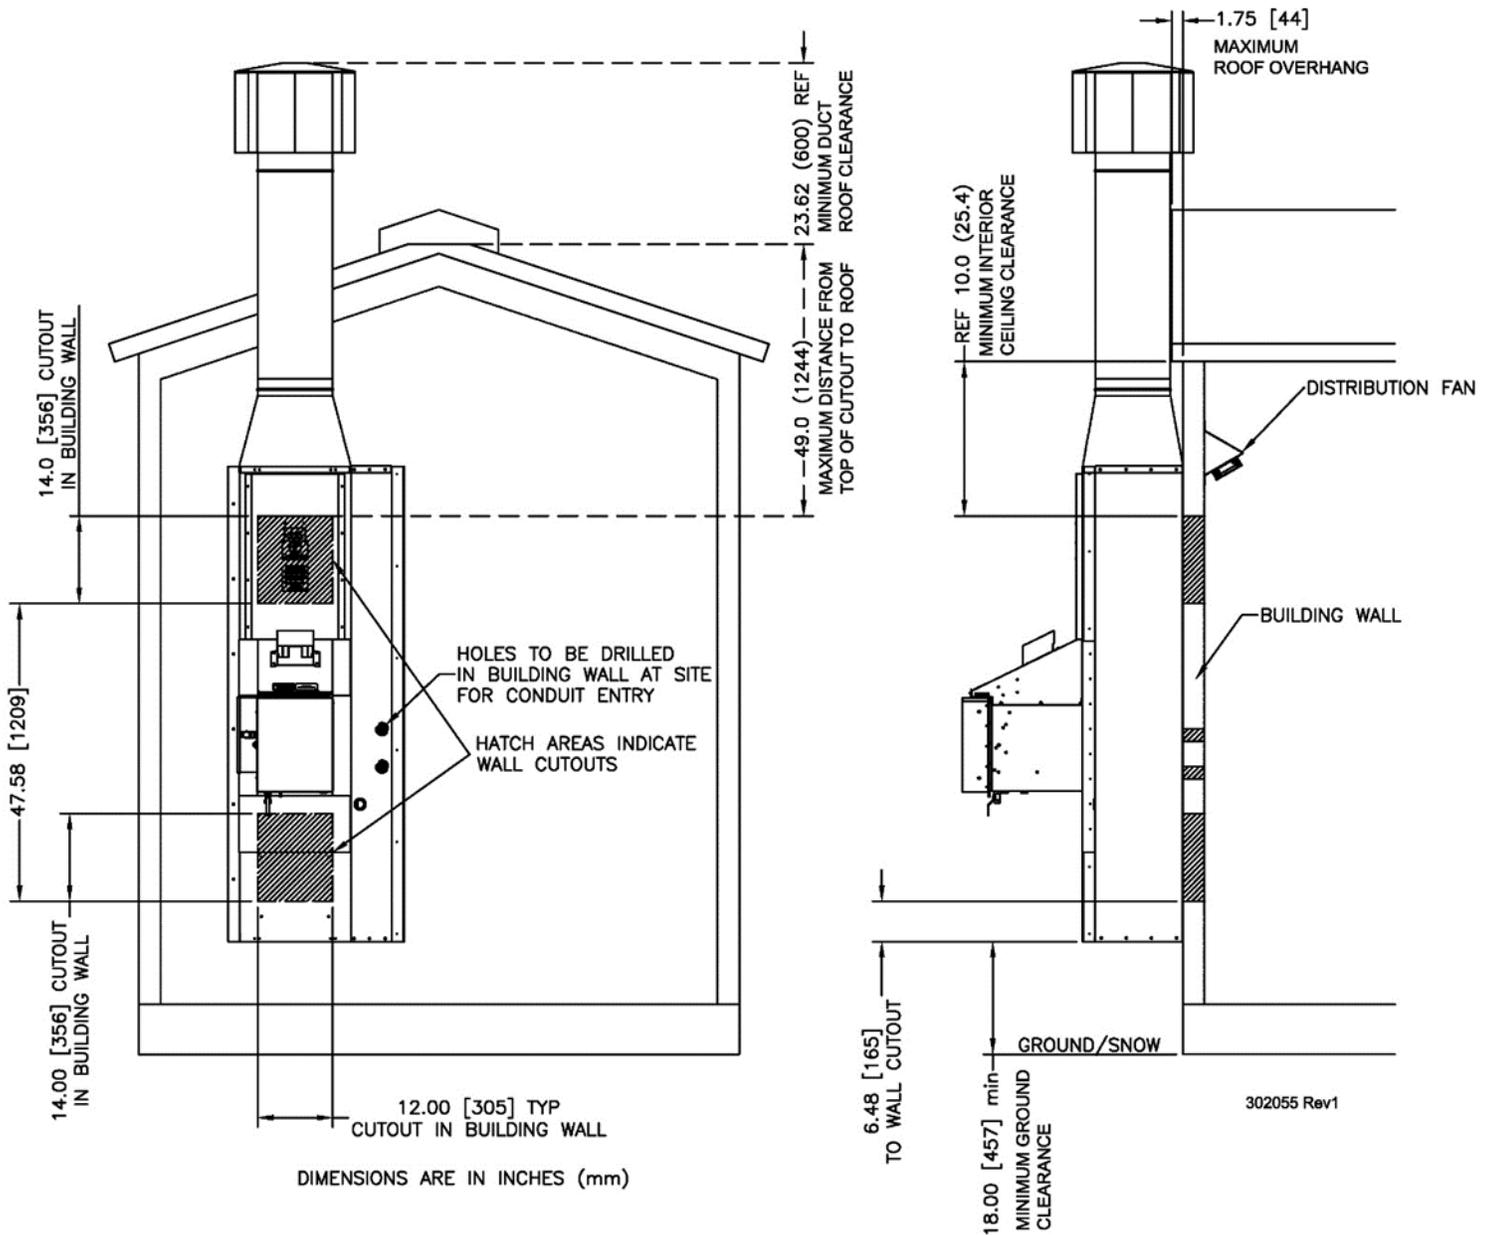

Figure 1 - Building cutout dimensions
Correct positioning of the wall openings is the most critical step in HRS installation. Ensure that your chosen cutout positions meet all constraints listed below before proceeding with the cutting process. Refer to Figure 1 throughout this section.
One or more cable/conduit wall cutouts will be required for system wiring. It is recommended to make these cable entry holes during installation Section 15. Example cable entries are shown in Figure 1 below.
- One or more small wall cutouts are required for these wiring connections; see Figure 1 in Section 6. These holes should be sized appropriately for the customer's system wiring. Ensure these holes are positioned so they are protected within the actuator cover (Item H1, Figure 6) once installed.